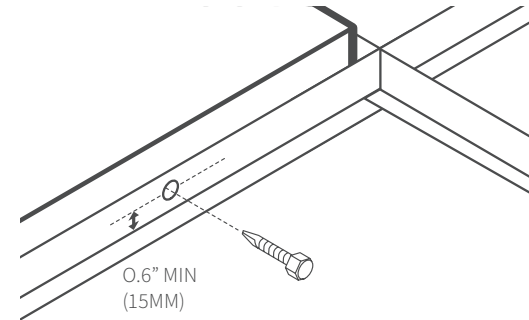

FIGURE 6:
9. Utilizing existing holes on the vertical section of the ceiling rail (center of the hole to the base of the rail must be a minimum of 15mm, drill two screws on each 0.6m side of Topcat (Figure 6).